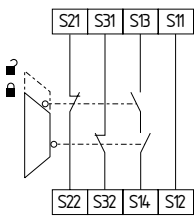

Fig. 9
**Monitored dual-channel controlled safety guard (Fig. 9)**